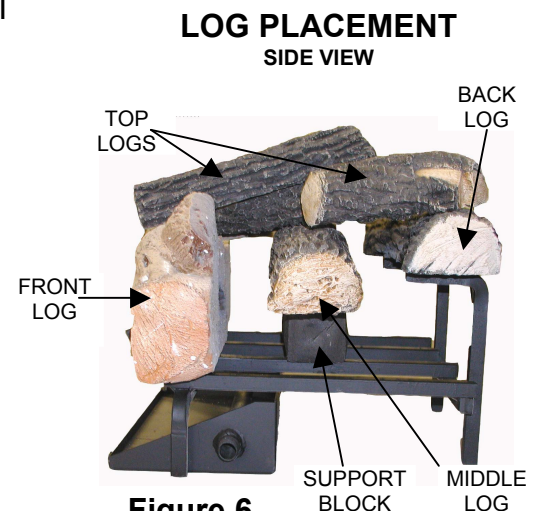

Figure 6
3. The remaining logs are **top logs**. These logs are placed diagonally across the bottom logs and can be arranged to create the most realistic flame patterns. (See Figure 6)